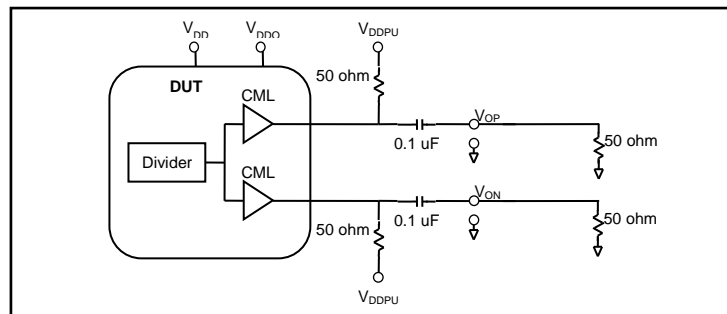

Figure 36. HPOUT_DIFF (CML) Output
* V_{DD0} and V_{DDPU} are connected to V_{DD} and are included in the V_{DD} measured current value; see Figure 36
* V_{DD0} and V_{DDPU} are connected to V_{DD} and are included in the V_{DD} measured current value; see Figure 36.